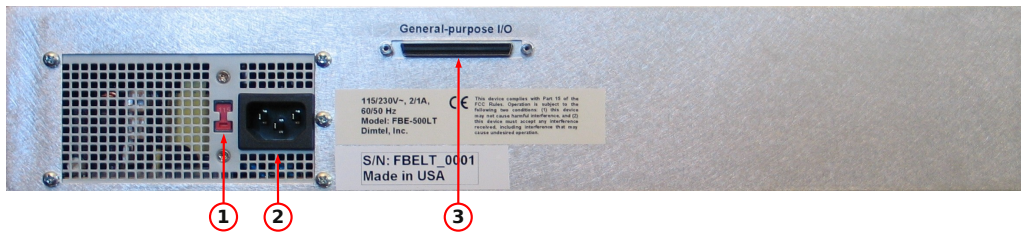

Figure 3: Rear panel features
WARNING: Before connecting power to the unit make sure the voltage selection switch (Fig. 3, item 1) is in the correct position (115 or 230 V).
1. Configure voltage selection switch (Fig. 3, item 1). Mains supply requirements for the FBE-509LT are listed in Table 4;
9. Using the supplied 68-pin GPIO cable connect the iGp/iGp12 interface (Fig. 3, item 3) to the GPIO connector on the iGp/iGp12;